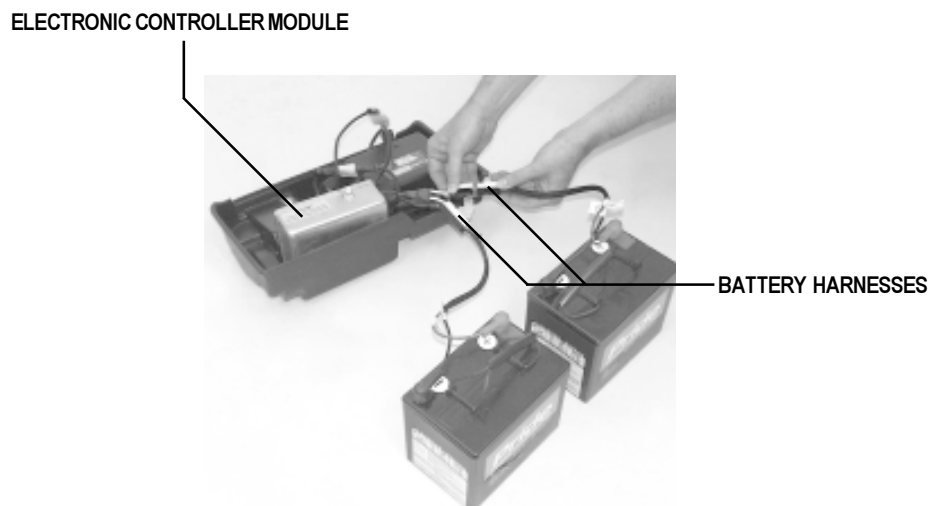

Figure 9. Utility Tray and Batteries
You can charge your batteries with the Scooter completely assembled or with the Scooter disassembled, as described in VIII. "Disassembly and Assembly." We strongly recommend you charge your batteries while your Scooter is fully assembled. However, if you are traveling and you disassemble your Scooter to transport it, you may find it necessary to charge your batteries. In such instances, it is easier to take out the utility tray and batteries to perform the charging. See figure 9.
3. Plug both two-pin battery harnesses into the adjoining harnesses extending from the electronic controller module on the utility tray. See figure 9.